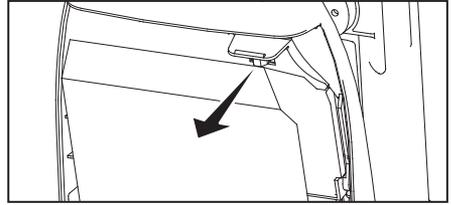
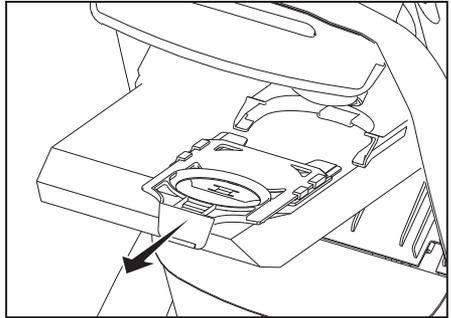

Fig. 1
Fig. 2
- Remove the used vacuum bag by pulling the yellow bag collar tab away from the vacuum (Fig. 1). Slide the used bag out of the holder which automatically seals the bag (Fig. 2). Discard the used bag.